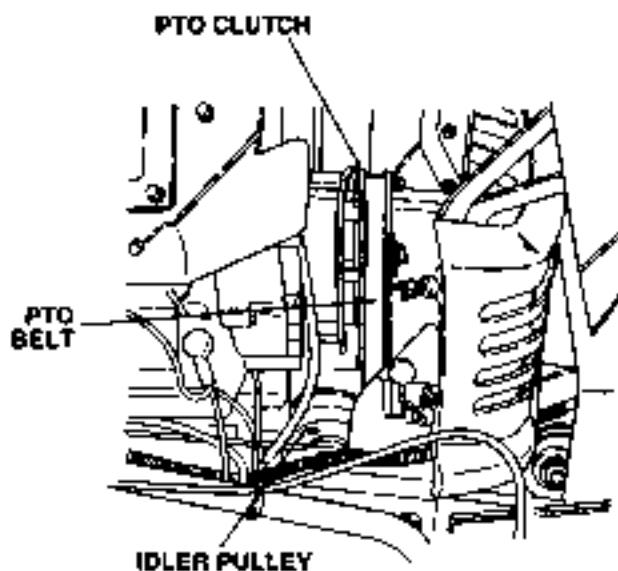

Figure 7-37. Installing PTO Belt.
- Route the PTO belt under the idler pulleys of the tractor and up over the PTO clutch on the front of the engine. See Figure 7-37.